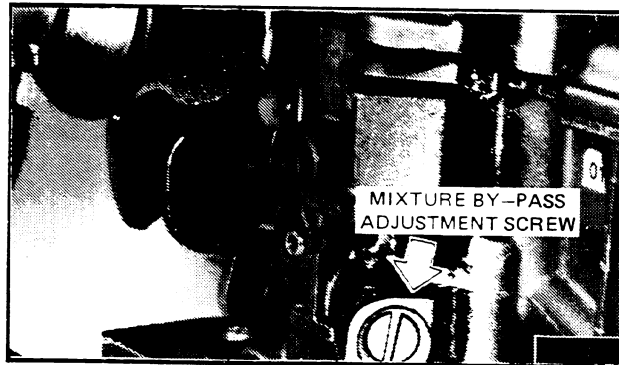

Figure 6C-119
7. Adjust mixture by-pass adjusting screw (shown in Fig. 6C-119) to set idle to specification.